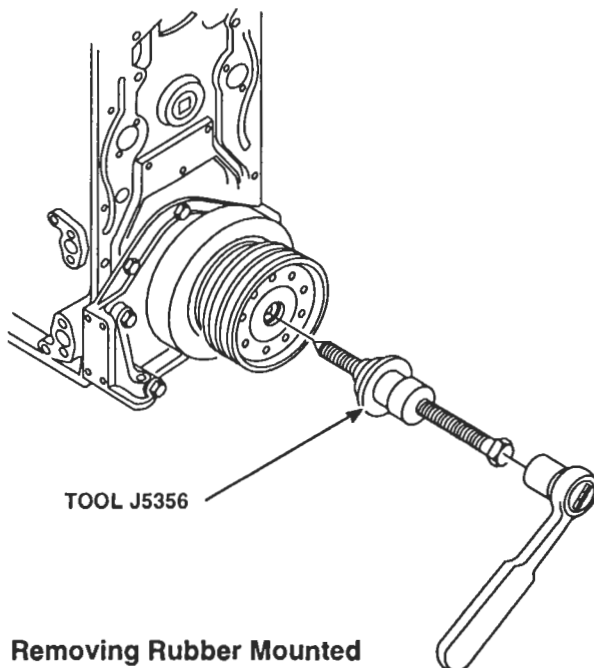

Figure 1. Removing Rubber Mounted Pulley from Crankshaft
2. If a rubber mounted pulley with an internal thread is being removed, use puller J 5356 (Figure 1.) Clean the threads of the tool and pulley. Screw the 2 1/2-16 inch thread into the pulley hub as far as possible with the center screw backed off. Then force the pulley off the crankshaft by turning the center screw in.